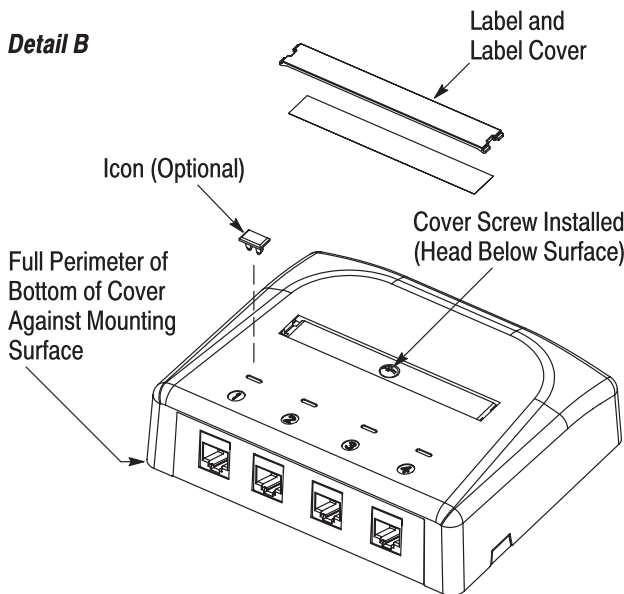

Figure 7
2. Align the opening of the cover with the ports of the module base, and push the cover onto the module base until all of the locks engage and the bottom of the cover is against the mounting surface. See Figure 7, Detail A.
3. Thread the cover screw into the hole in the top of the cover; tighten the screw until it is snug and the head of the screw is below the surface of the label holder. See Figure 7, Detail B.